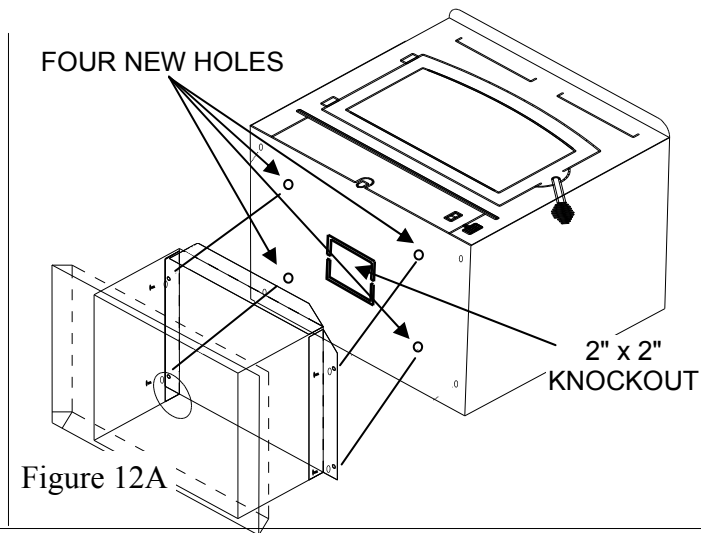

Figure 12A
6. **(Pedestal Kit):** If pedestal kit is being used (**and outside air is required see below, Out Side Air Installation**). Open freestanding kit and obtain stand. Place stand against bottom of heater (angle side to heater). Center stand front to rear and also center stand left and right. Mark screw locations on bottom of stove through outer holes of stand mounting angles. Set stand aside and drill four 7/32" holes in heater bottom. Before attaching heater to stand, take a large flat screwdriver or pliers and remove 2" x 2" knockout on bottom of unit. (See Figure 12A). Then mount stand to bottom of heater with screws provided. (See Figure 12A).
7. Obtain four (4) 3/16" self-tapping screws and secure stand to heater.